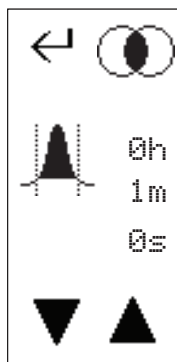

Figure 3-16 Peak Width Settings menu
1. Touch the Peak Width Detection icon from the Method Settings menu to open the threshold menu (Figure 3-16).